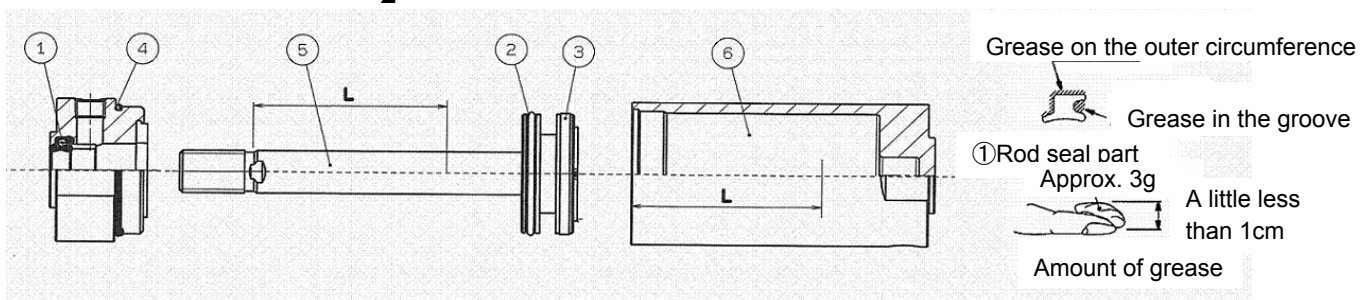

Fig. 8 Position for application of grease
Grease is applied to the locations shown in Fig. 8. The amount of grease per cylinder of 100 stroke is shown in attached table 9. Roughly, one scoop with a forefinger is approximately 3g.
1) Rod seal (Fig.8, ①)
2) Piston seal (Fig. 8, ②)
3) Tube gasket (Fig. 8, ④)